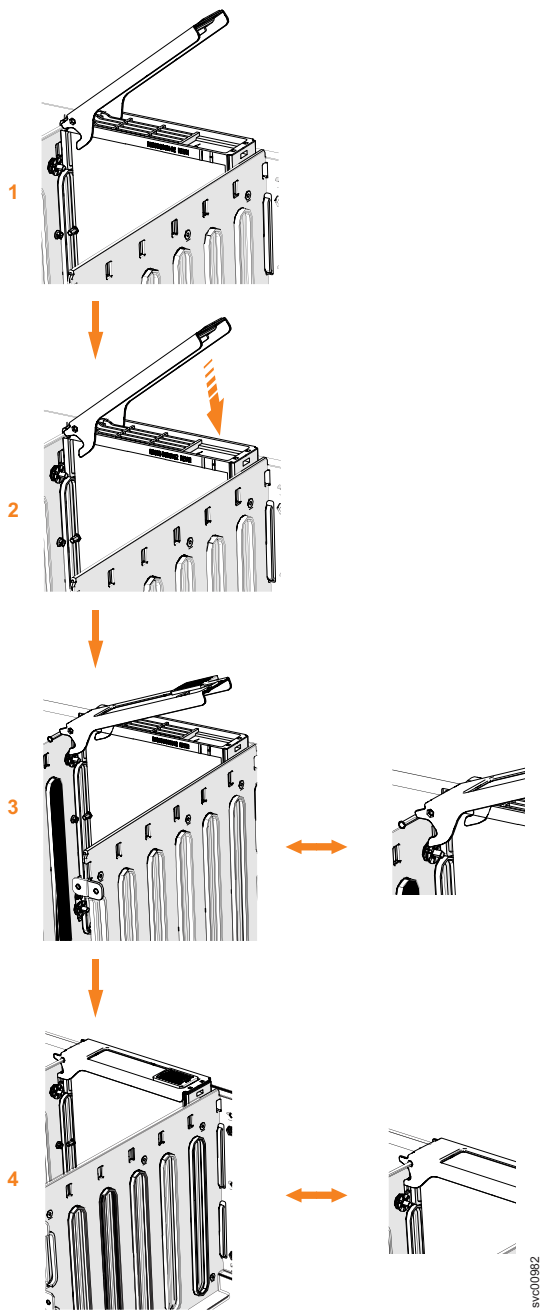

Figure 111. Replace the drive
6. Ensure that the drive handle ( **1** in Figure 111 on page 247) of the drive assembly is in the open (unlocked) position.
8. Gently push the drive down until it stops and the bottom of the latch is aligned with the top of the partition. Ensure that the handle is not open more than 45 degrees from the drive carrier. ( **2** in Figure 111 on page 247).
9. Rotate the handle down to lock the drive assembly into the chassis ( **3** in Figure 111).
11. Ensure that the top toe of the latch is also fully engaged ( **4** in Figure 111 on page 247).